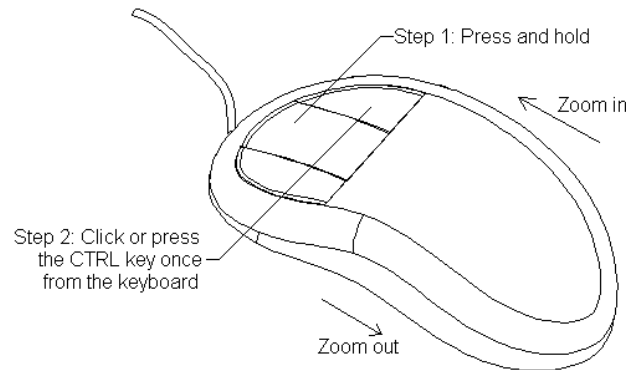

Figure 1-9 Using the three-button mouse to perform the zoom in and zoom out operations
4. Press and hold the middle mouse button and then click the right mouse button once to invoke the **Zoom** mode. Now, drag the mouse up to zoom in the view of the model. Similarly, drag it down to zoom out the view of the model. You can also invoke the zoom tool by first pressing and holding the CTRL key and then pressing and holding the middle mouse button. Now, release the CTRL key and drag the cursor to zoom in and out of the view of the model. Figure 1-9 shows how to use a three-button mouse to zoom in and zoom out functions.